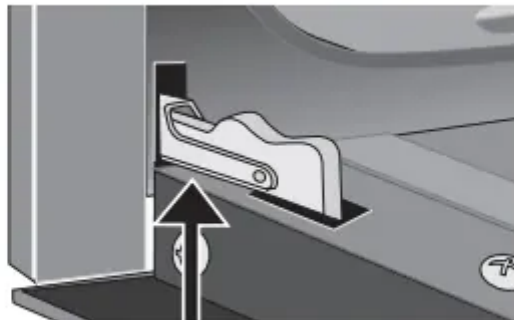
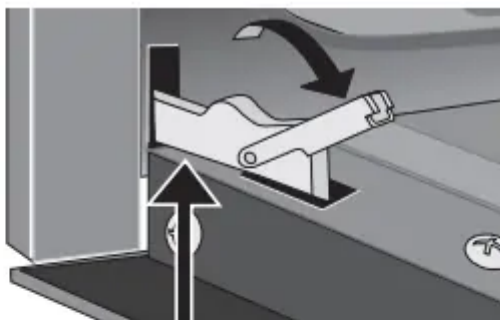

Figure 31: Door hinge locked
Figure 32: Unlocking door hinge
2. Pull up the lock located on each hinge support toward front of the oven until the lock stops. You may have to apply a little upward pressure on the lock to pull it up (Figure 31 and Figure 32).
4. Push the door hinge locks up toward and into the oven frame on both left and right oven door hinges to the locked position (Figure 31).